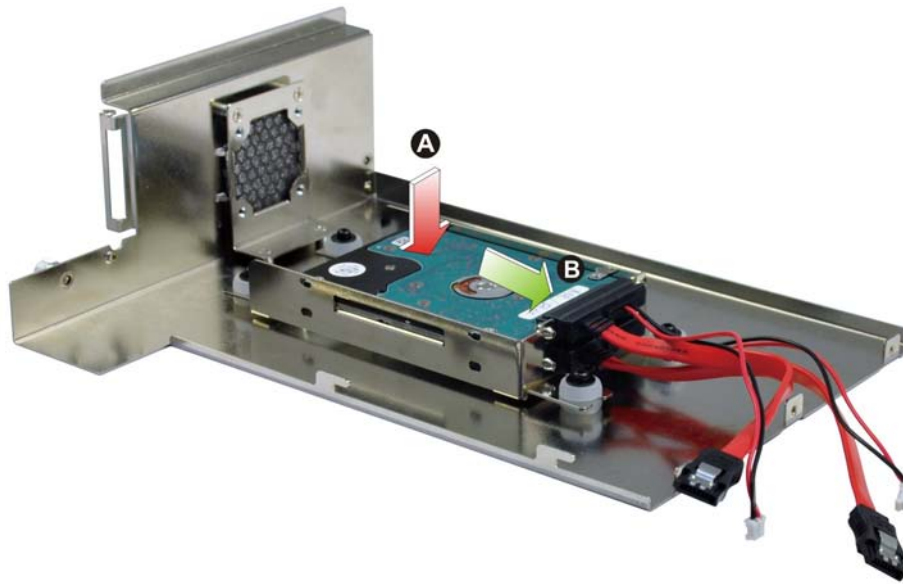

Figure 3-5: HDD Installation
Step 3: Attach the HDD to the HDD bracket, and then slide the HDD to connect with the SATA connector (**Figure 3-5**).